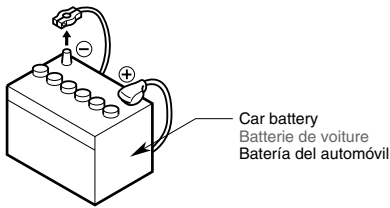

Figure 1 / Figure 1 / Figura 1
3. Be sure to disconnect the battery “⊖” terminal before starting. This is to prevent short circuits during installation. (Figure 1)
3. S'assurer de débrancher la borne “⊖” de la batterie avant de commencer. Cela évitera les court-circuits pendant l'installation. (Figure 1)